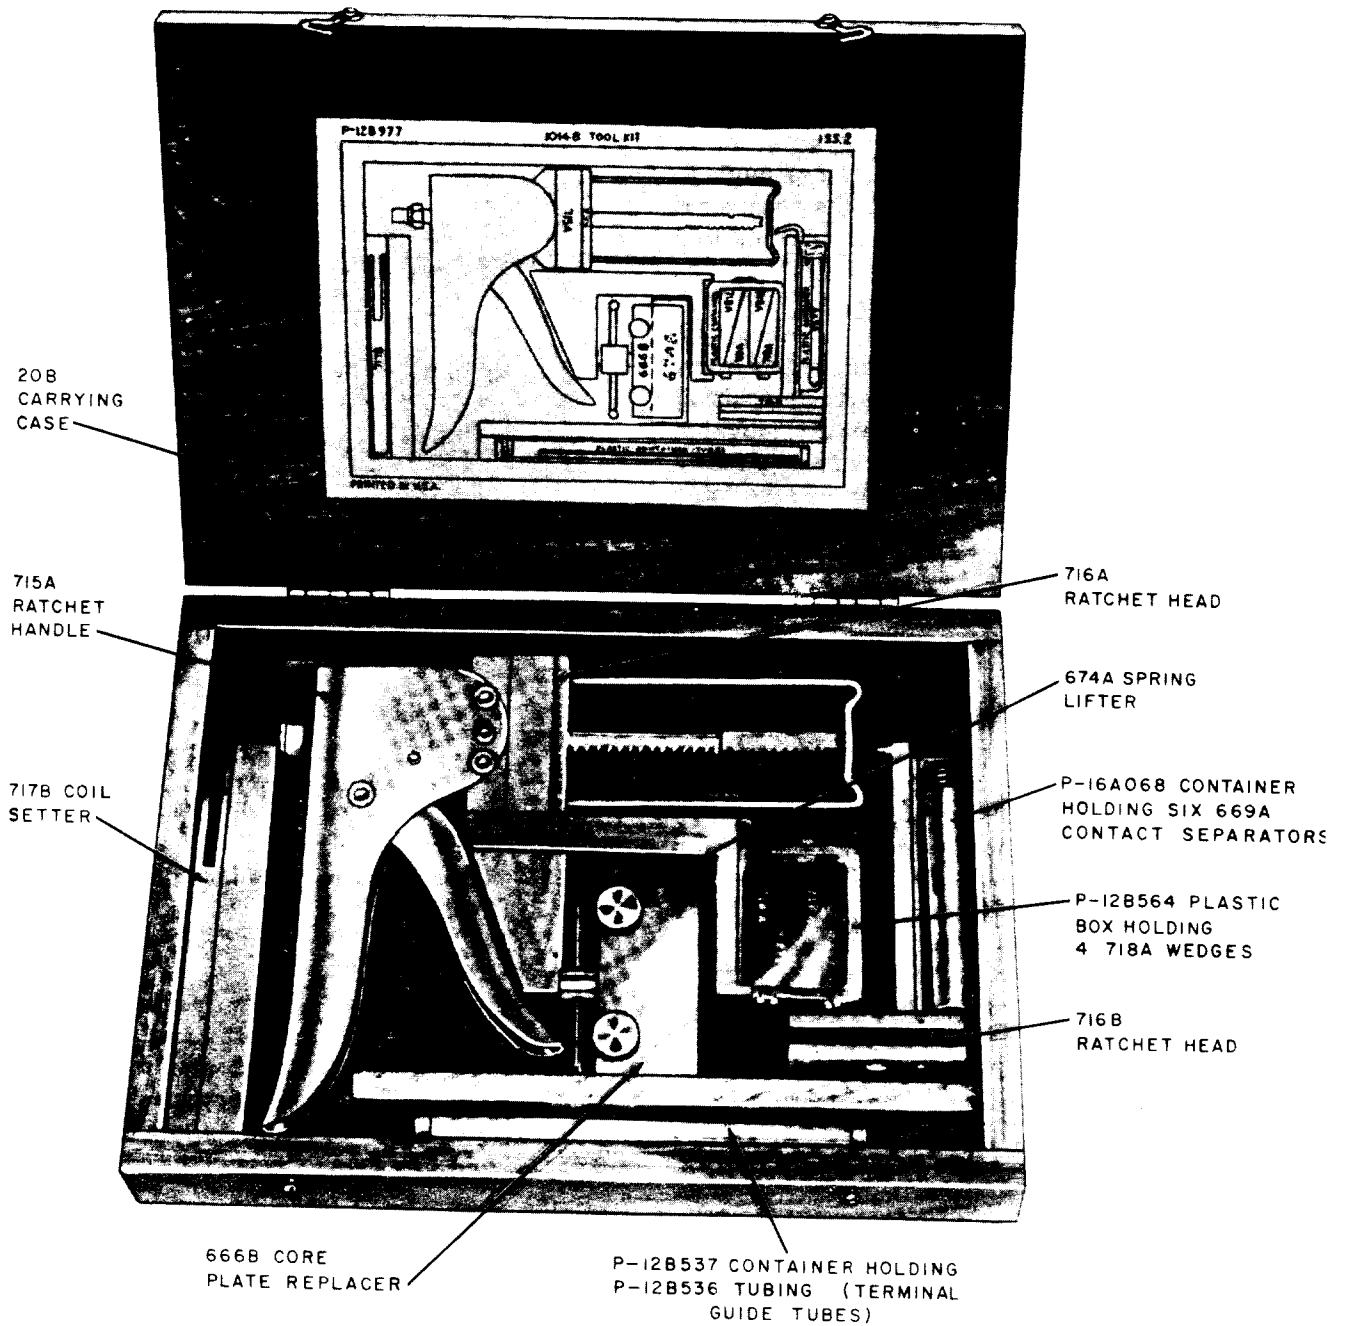

Fig. 14—1014B Tool Kit
3.34 1014B Tool Kit: Figure 14 shows the tools comprising the 1014B tool kit used for replacing coils on wire-spring type relays. The 716B ratchet head and P-12B536 terminal guide tubes furnished with the tool kit are not required for 286-, 287-, and 288-type relays. The guide tubes are used for AF-, AG-, AJ-, and AK-type relays. The 716B ratchet head is used only for AK-type relays. To prepare the ratchet handle and head for use, proceed as follows.